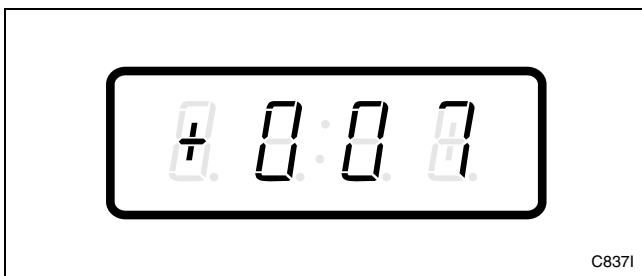

Figure 34
3. Press the DELICATES (+) or the COLD (-) keypad to scroll through the programmable options until “+007” appears in the VFD. Refer to *Figure 34*.